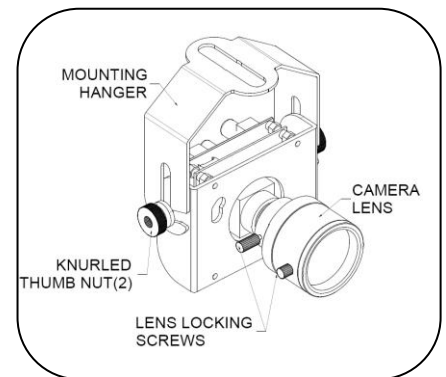

FIGURE 4
6. Place camera into hanger bracket. Make final pan and tilt adjustments and hand tighten knurled knobs to secure. Knurled knobs should be located at top of camera when positioned in hanger. [FIGURE 4]